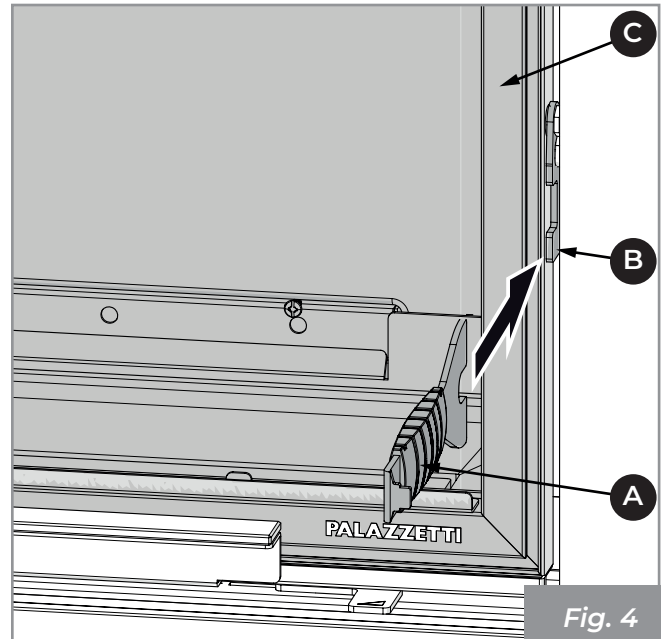
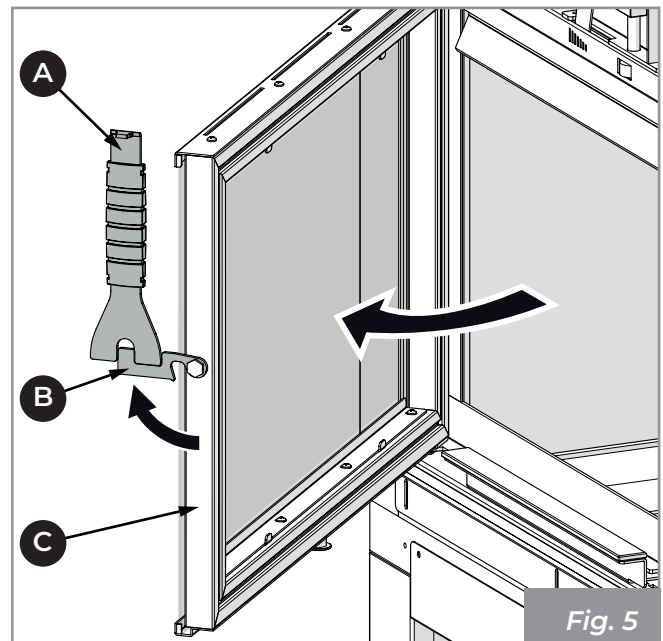

Fig. 4
Fig. 5
- 1) Insert the cold handle (A) on the handle (B) to open the door (C) (Fig. 4 - Fig. 5).